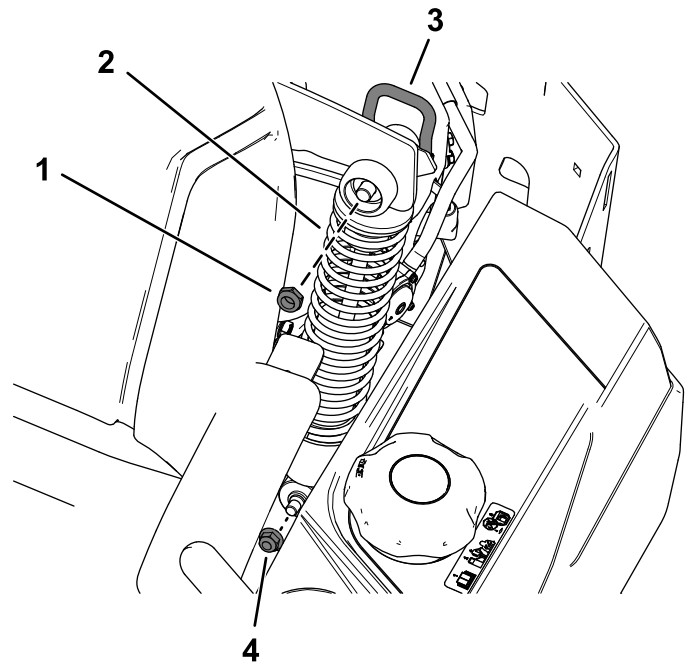

Figure 1
1. Remove the cam locknut (1/2 inch) securing the top of the existing rear spring (Figure 1). Retain the cam locknut (1/2 inch).
2. Remove the flange nut (3/8 inch) securing the bottom of the existing rear spring (Figure 1). Retain the flange nut (3/8 inch).
3. Remove the existing rear spring (Figure 1).
1. Install the new rear spring using the previously removed cam locknut (1/2 inch) and flange nut (3/8 inch) as shown in Figure 1.